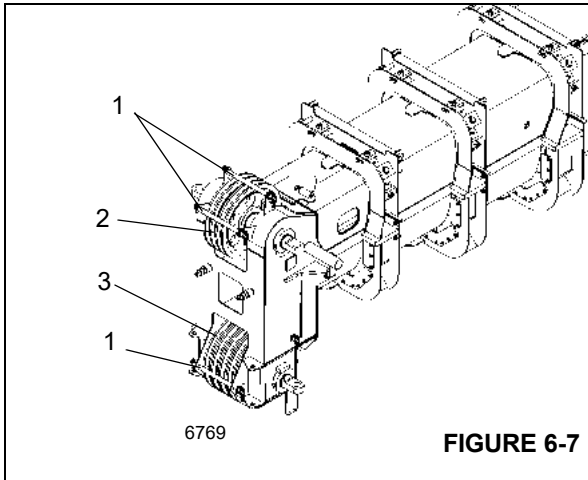

FIGURE 6-7
1. Remove the retaining rods (1), (Figure 6-7).
2. Guide the rope over the upper boom nose sheaves (2), (Figure 6-7).
3. Guide the rope over the lower boom nose sheave (3), (Figure 6-7).
2. Remove the retaining rods (1), (Figure 6-7).
3. Take the wire rope off the upper boom nose sheave (2), (Figure 6-7) and place it on the ground on the left side.